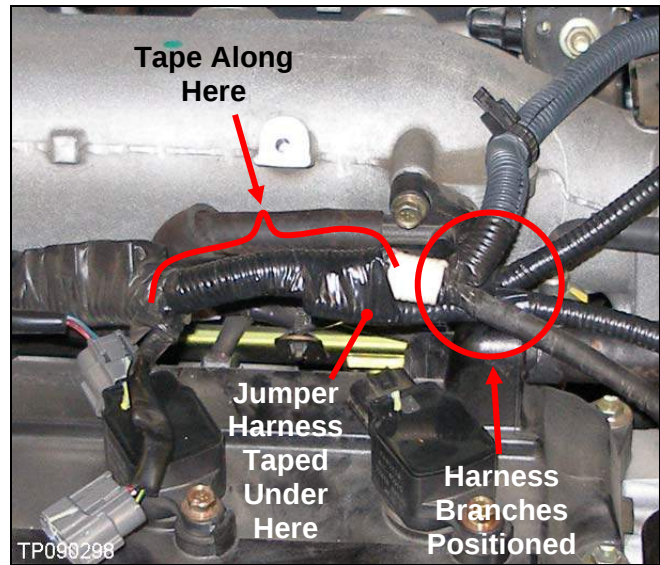

Figure 9
h. With the two branches positioned next to each other, tape up the section of EGI harness, along with the jumper harness's end (see Figure 9).
- Tape the jumper wire's COT within the applied tape (see Figure 9).